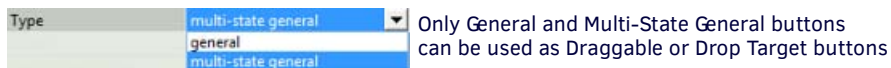

FIG. 225 TPDesign5 General Properties - Type set to "general"
2. Set the button's *Type* (General) property to **multi-state general** (FIG. 225):